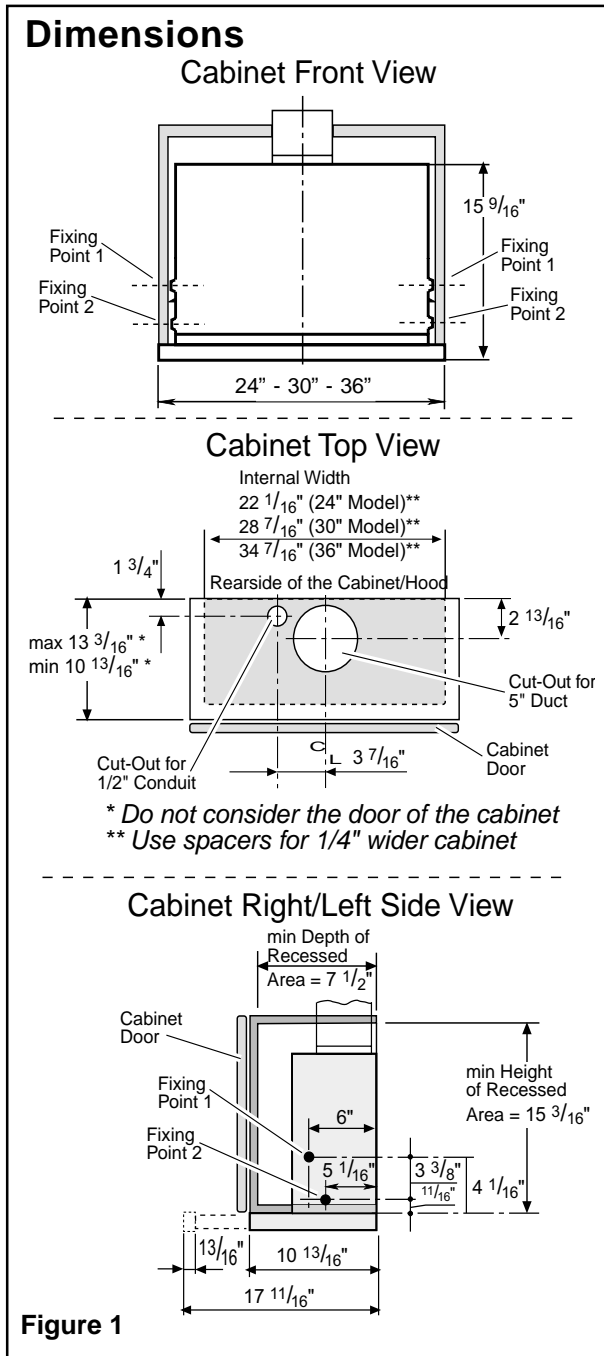

Figure 1
- This hood is designed to be mounted flush to the rear wall (to avoid clearance from wall to hood) and to the internal sides of cabinet (where hood must be fixed); for this reason we suggest installing this hood only inside a cabinet having an internal width of 22 1/16" for the 24" Model, 28 7/16" for the 30" Model, 34 7/16" for the 36" Model and with an internal depth of minimum 7 1/2". See figure 1. The external depth of the cabinet must be minimum 10 13/16" and maximum 13 3/16". See figure 1.
- Make cut-out for duct and conduit, see figure 1.
The hood can be installed in cabinets with different depths (see also figure 1 for details); however the front of the slider box must always be flush with the front of the cabinet.